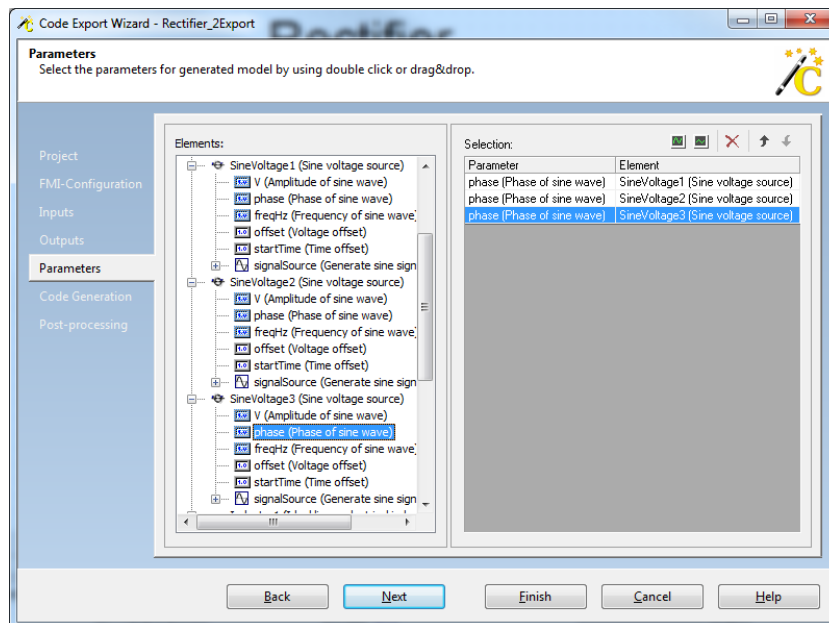

Figure 4: Properties page of Code Export Wizard.
12. The parameter window allows you to define user-defined parameters of the FMU. As shown in Figure 4, choose the “phase” attribute of “SineVoltage1”, “SineVoltage2”, and “SineVoltage3”. Hit “Next”.